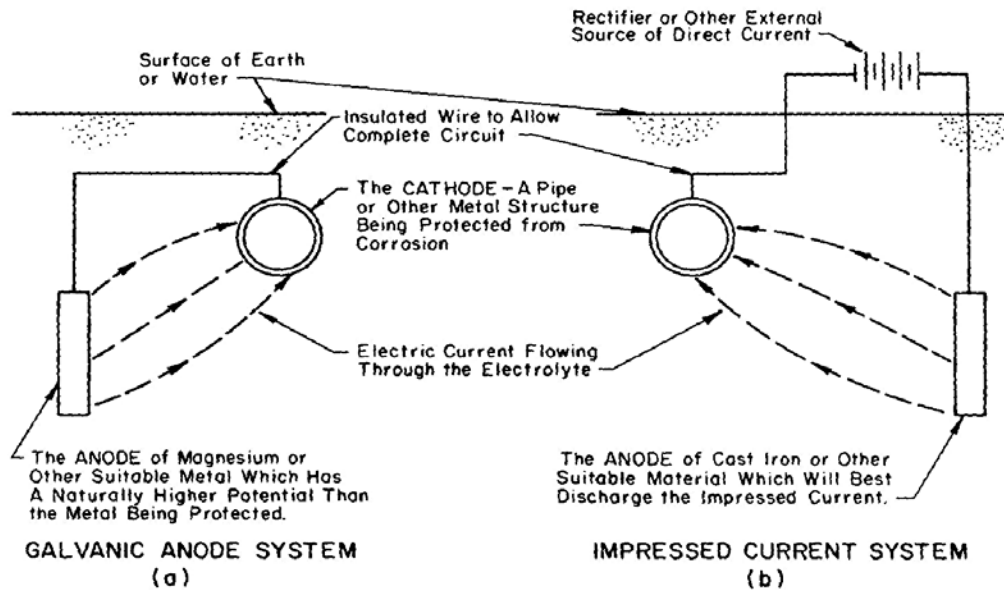

Figure 1
1.4 Types of cathodic protection systems. There are two main types of cathodic protection systems: galvanic and impressed current. Figure 1 shows these two types. Note that both types have anodes (from which current flows into the electrolyte), a continuous electrolyte from the anode to the protected structure, and an external metallic connection (wire). These items are essential for all cathodic protection systems.
1.4.1 Galvanic system. A galvanic cathodic protection system makes use of the corrosive potentials for different metals. Without cathodic protection, one area of the structure exists at a more negative potential than another, and corrosion results. If, however, a much less inert object (that is, with much more negative potential, such as a magnesium anode) is placed adjacent to the structure to be protected, such as a pipeline, and a metallic connection (insulated wire) is installed between the object and the structure, the object will become the anode and the entire structure will become the cathode. That is, the new object corrodes sacrificially to protect the structure as shown in Figure 1(a). Thus, the galvanic cathode protection system is called a *sacrificial anode* cathodic protection system because the anode corrodes sacrificially to protect the structure. Galvanic anodes are usually made of either magnesium or zinc because of these metals' higher potential compared to steel structures.
anode through the electrolyte onto the structure, just as in the galvanic system. The main difference between galvanic and impressed current systems is that the galvanic system relies on the difference in potential between the anode and the structure, whereas the impressed current system uses an external power source to drive the current, as shown in Figure 1(b). The external power source is usually a rectifier that changes input AC power to the proper DC power level. The rectifier can be adjusted so that proper output can be maintained during the impressed current cathodic protection process. The rectifier is usually made of graphite.